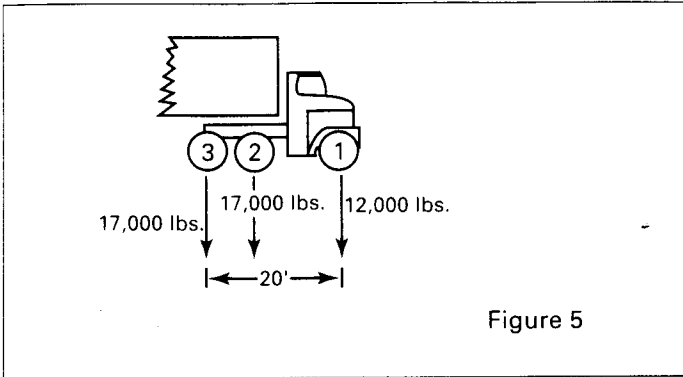

Figure 5
**Check of 1 thru 3 (Figure 5)**